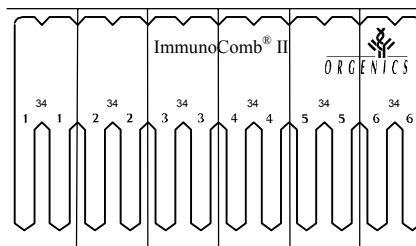

Figure 4. Breaking the Card
- b. Bend and break the Card vertically or cut with scissors (see Figure 4) to detach the required number of teeth **pairs** (No. of tests including 2 controls). Do not separate paired teeth.